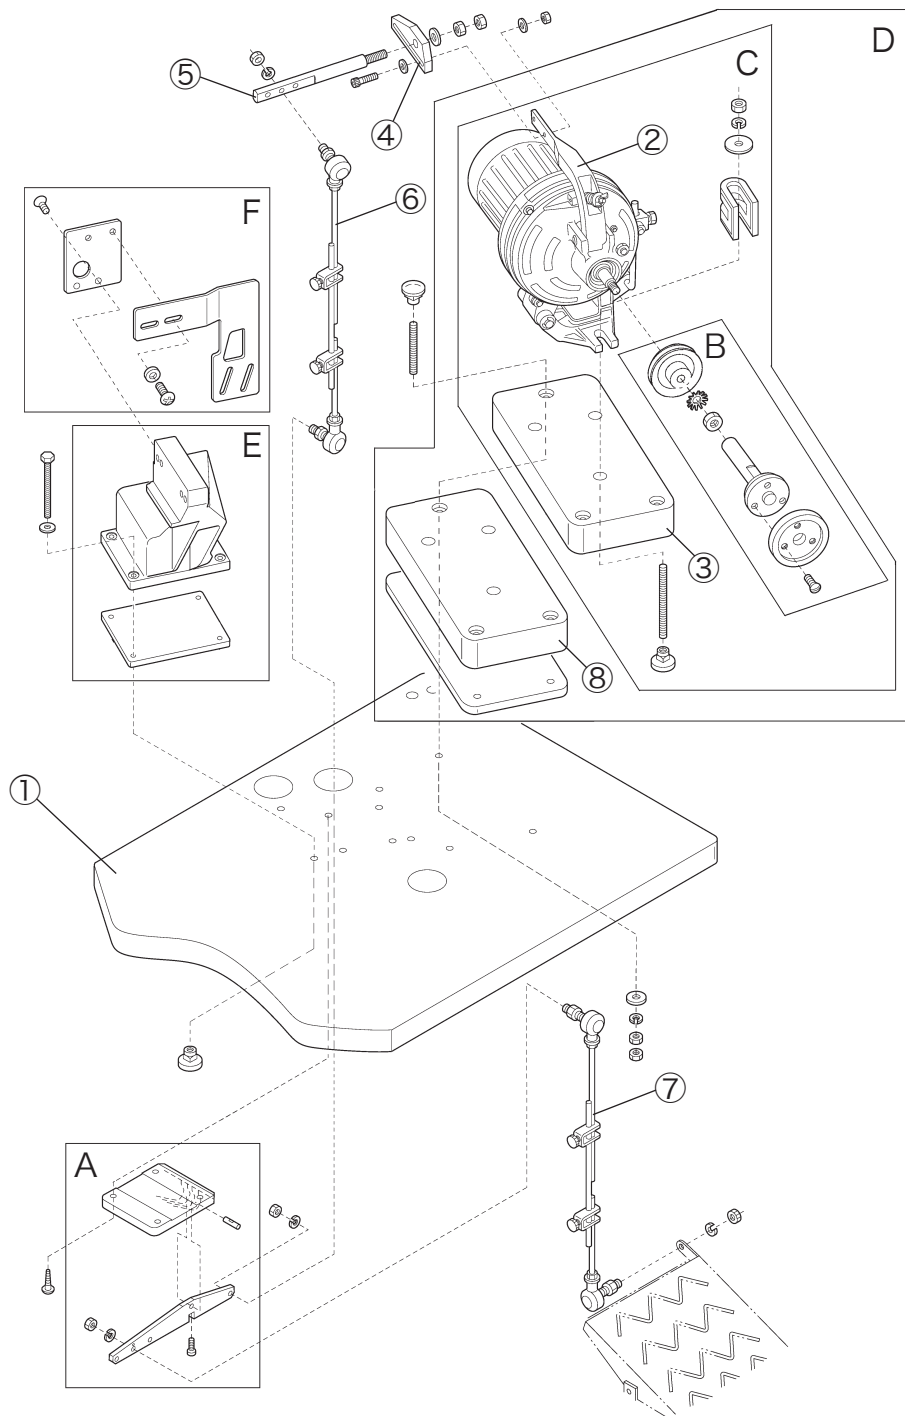
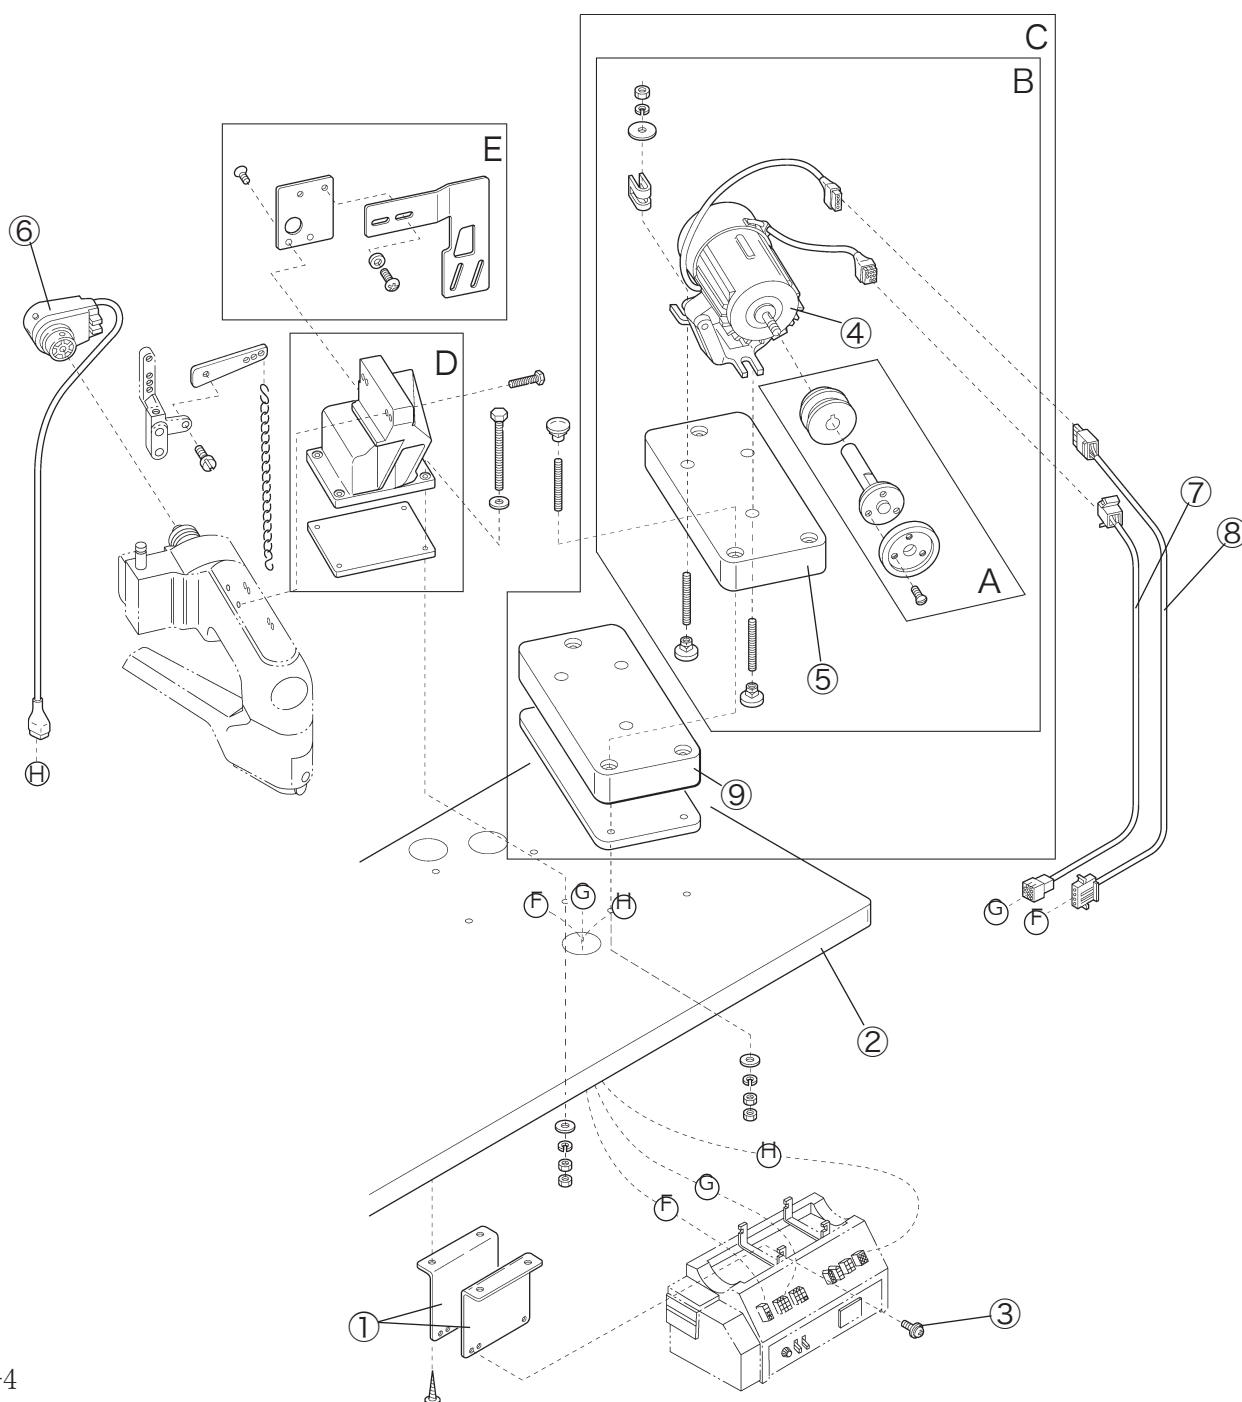

Fig. 1-3
Fig. 1-4
Motor support (lower) (Fig1-3 ③ and ⑧ , Fig1-4 ⑤ and ⑨)
See Fig.1-3 to assemble the machine according to the following steps:
See Fig.1-4 to assemble the machine according to the following steps: